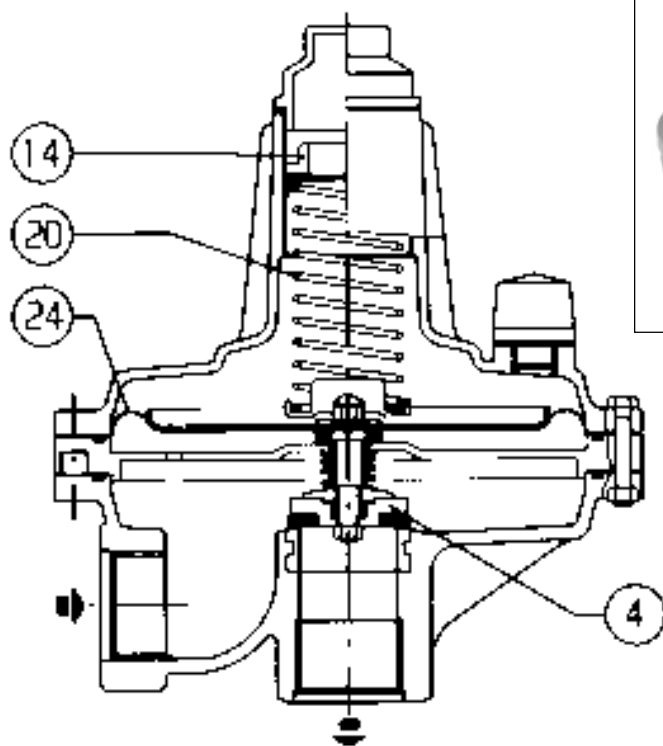

Fig. 1
- *bubble-tightness accuracy (AG):*
1.2 VS/AM 55 (FIG. 1)